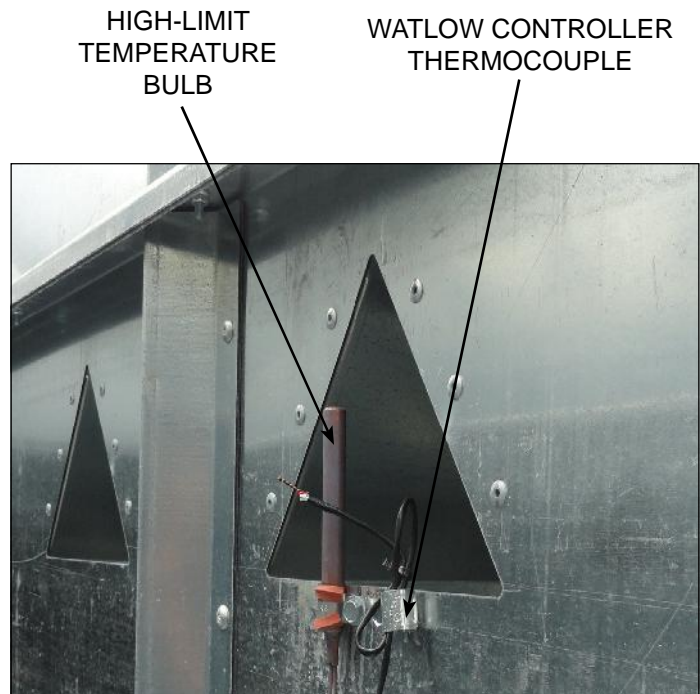

Figure 3.13 - High Temp Bulb & Watlow Controller Thermocouple (See clip - black twisted wire)
Refer to Figure 3.13:
- The current plenum temperature value is received by thermocouple wire. (See Figure 3.13)